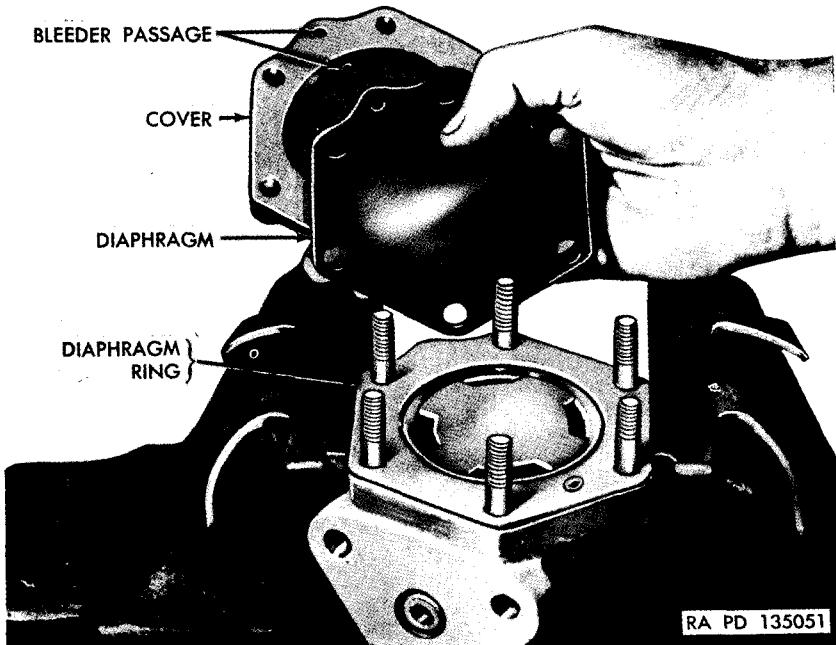

Figure 129. Removing cover.
a. *Cleaning.* Wash all metal parts with dry-cleaning solvent or volatile mineral spirits. Be sure bleeder passage (figs. 129 and 130) is clean and unobstructed.